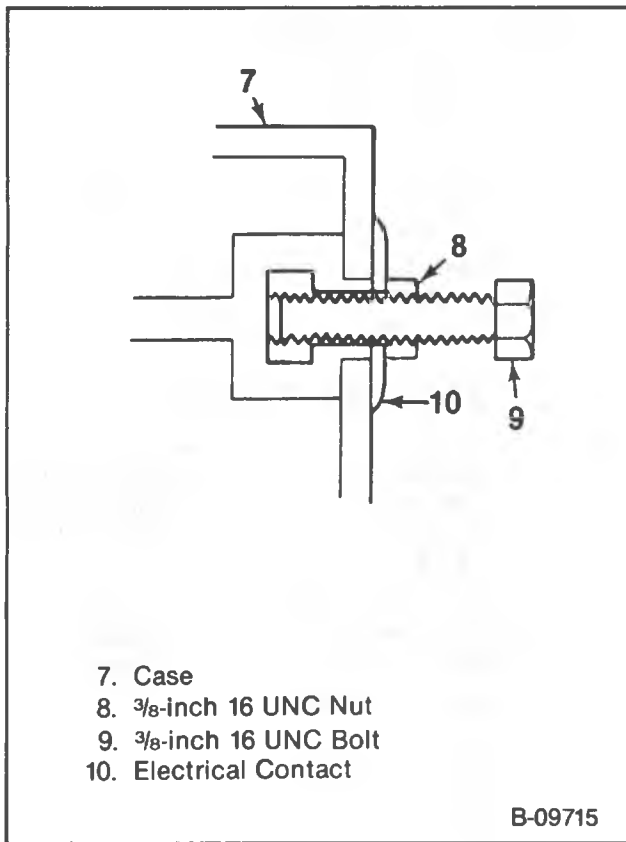

Figure 4 — Testing and Charging, Using Bolt and Nut
3. If adapters are not available, use a 3/8-inch 16 UNC bolt and stainless steel nut (figure 4). Finger tighten. Contact must be made through the lead pads at the face of the terminals, not through the threads of the bolt.